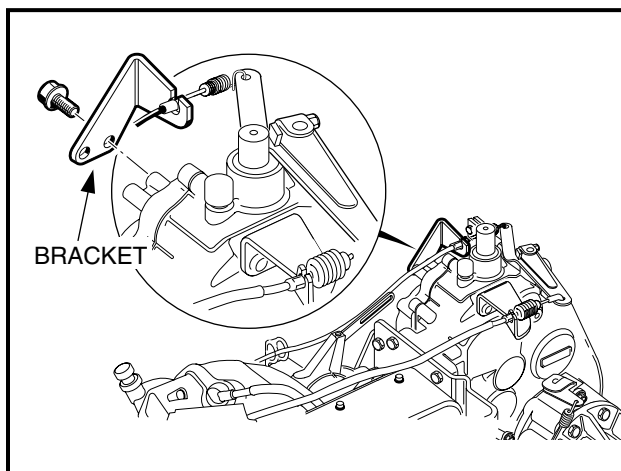

Figure 16-41 Accelerator Cable Bracket
7. Install the accelerator cable bracket on transaxle case and tighten screws to 134 in-lb (15.1 N·m) (**Figure 16-41, Page 16-16**).